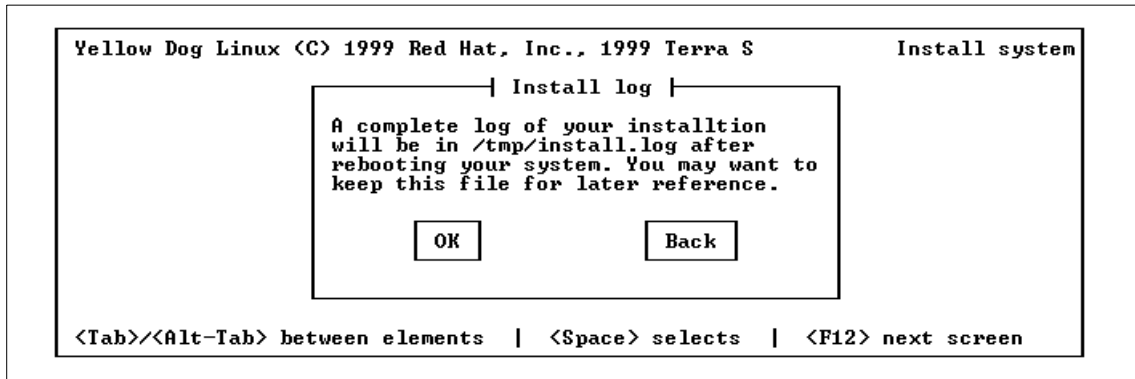

Figure 38. Installation Log
18. You can view your installation log in the log file after the installation has completed (see Figure 38).